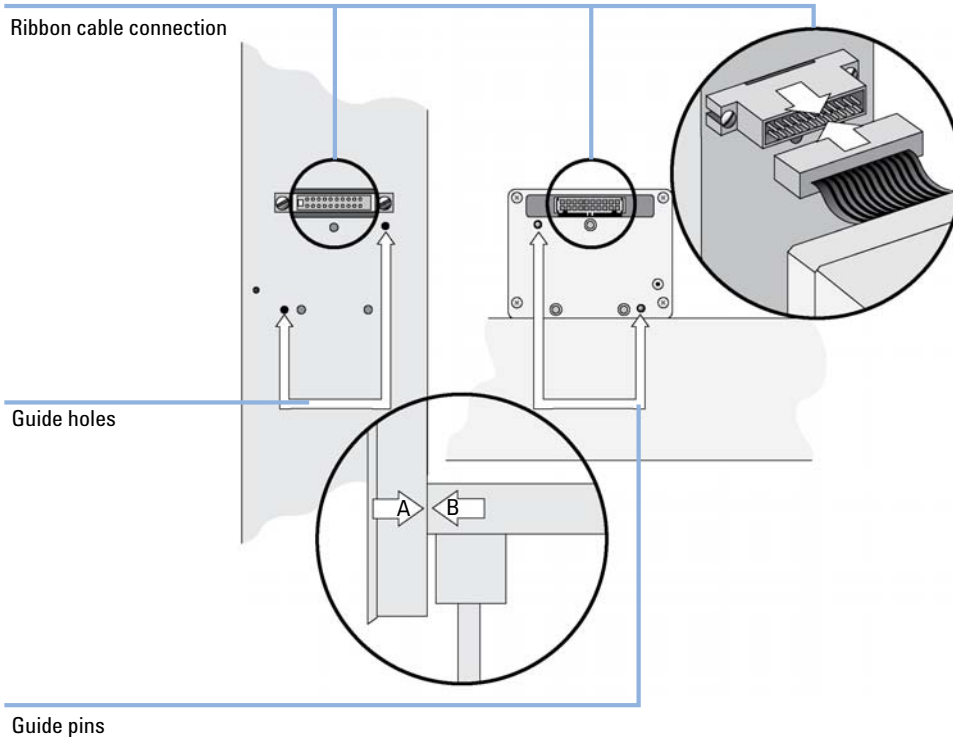

Figure 10 Connecting the Injection Unit Ribbon Cable
- 2 Connect the ribbon cable (see Figure 10 on page 57).